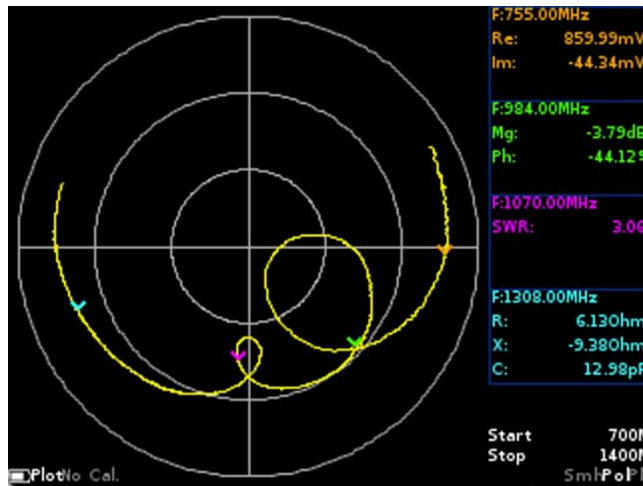

Figure 10.2 – Polar chart
10.2.1. The polar chart is intended to display the complex reflection coefficient in a two-dimensional coordinate system (Figure 10.2). The chart is similar to the Volpert-Smith chart, but its scale grid is reduced to specific values of the VSWR - 2; 5. On the device screen is indicated as **Pol**. Enabling or disabling the display of this chart on the screen is made as indicated in par. 9.3.
*In our example, in Figure 10.2, a GSM antenna with an operating frequency of 900 MHz is being tested. The chart includes four markers, and the display of the VSWR limit line is disabled. Measurement values at a fixed marker frequency in specified units are displayed to the right of the chart.*